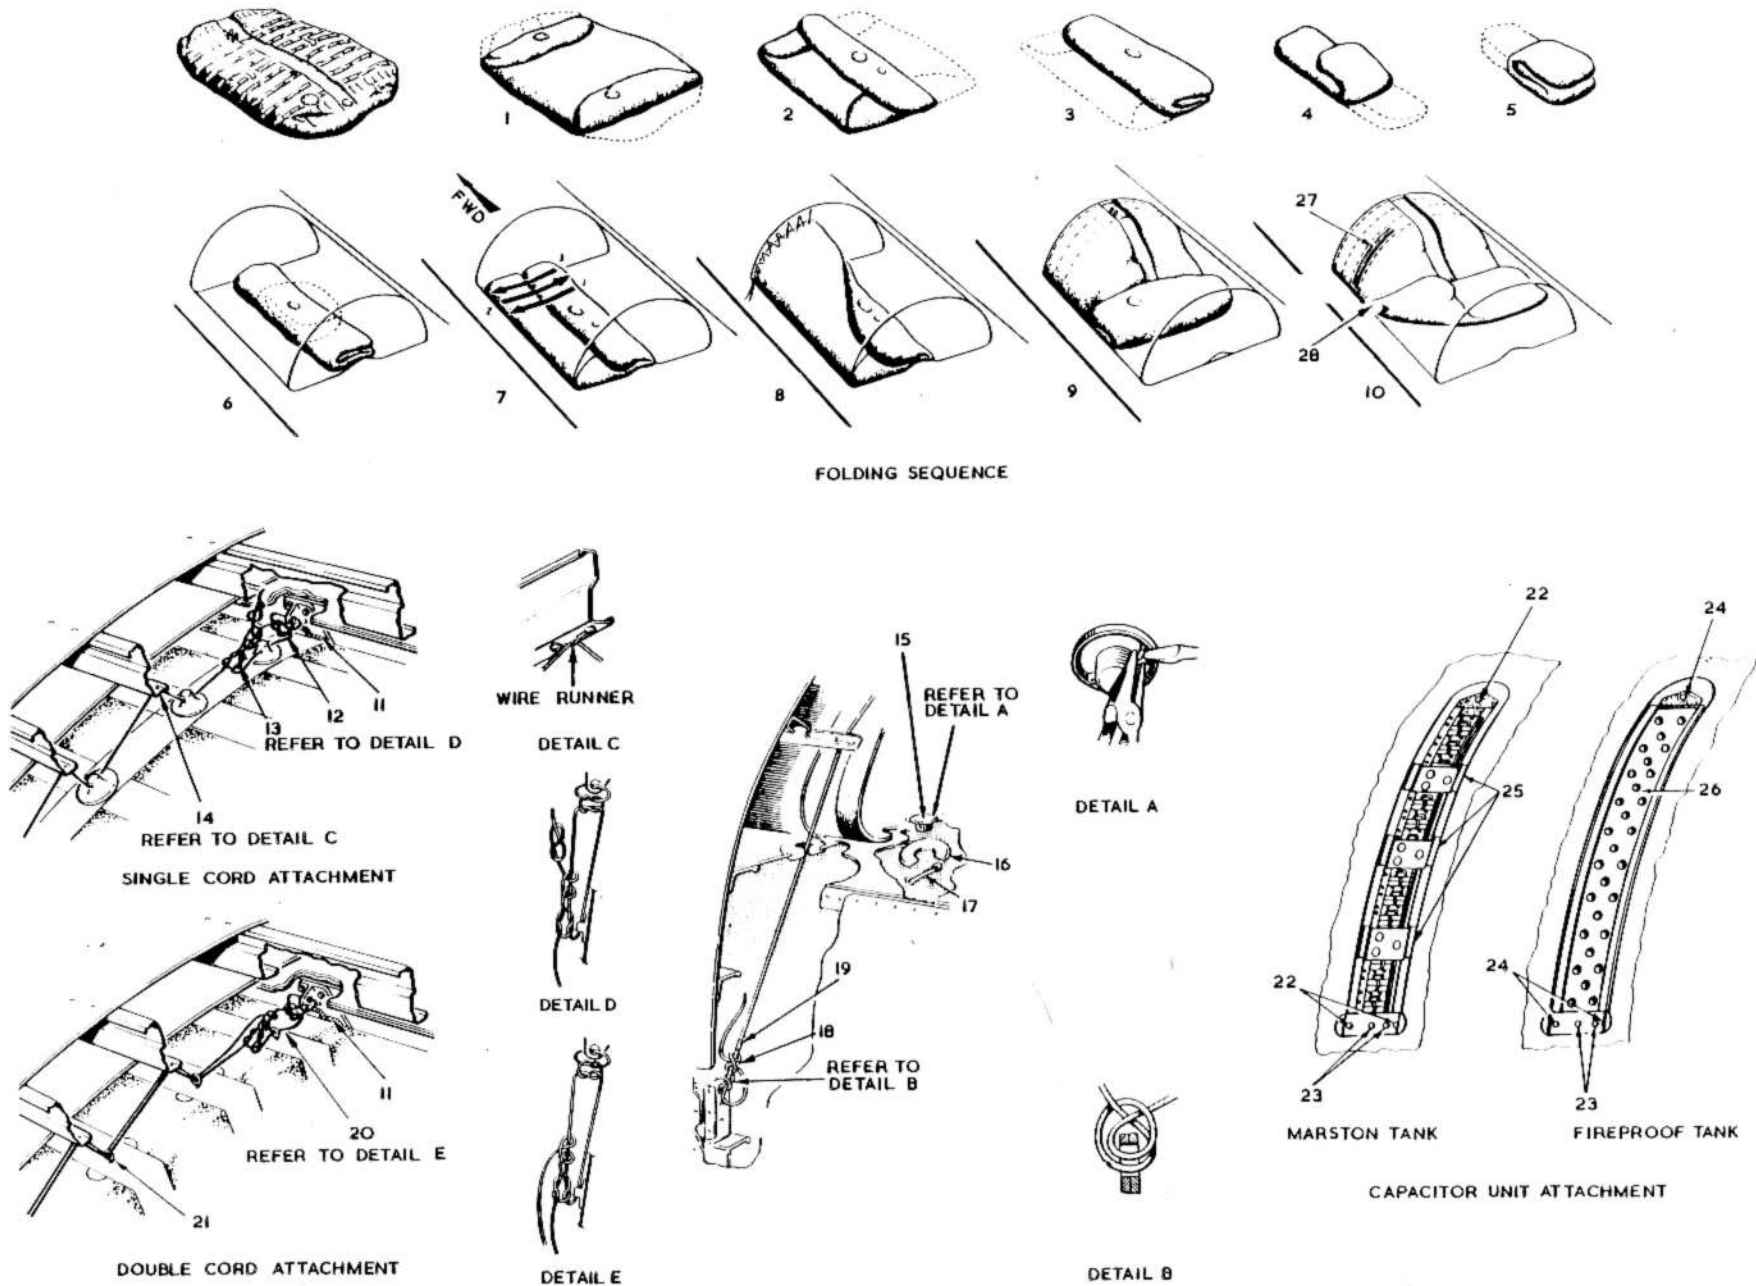

FIG.10. NO.3 FUEL TANK INSTALLATION
KEY TO FIG.10 (NO.3 TANK INSTALLATION)
No.3 Fuel Tank Installation (Fig.10)- continued
KEY TO FIG. 10 (NO. 3 FUEL TANK INSTALLATION) -continued
2. *When fitting new tank units to an existing tank, carry out the tank removal procedure described in the key to fig. 10 - operations (1) to (28) - then proceed as for fitting to a new tank.*